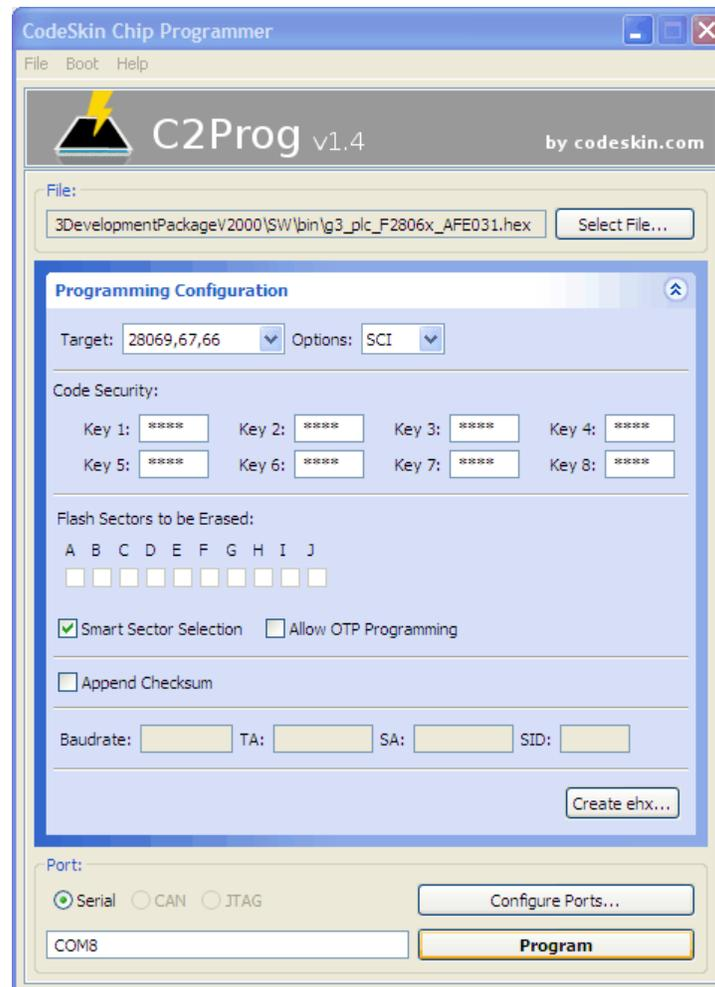

Figure 7. Programming Configuration Using Serial Port
6. Program the *.hex file (located in c:\Texas Instruments\\SW\bin) as shown in Figure 7. If a UART cable is used, serial port should be selected. Otherwise, if a USB-serial cable is used, JTAG port should be selected.